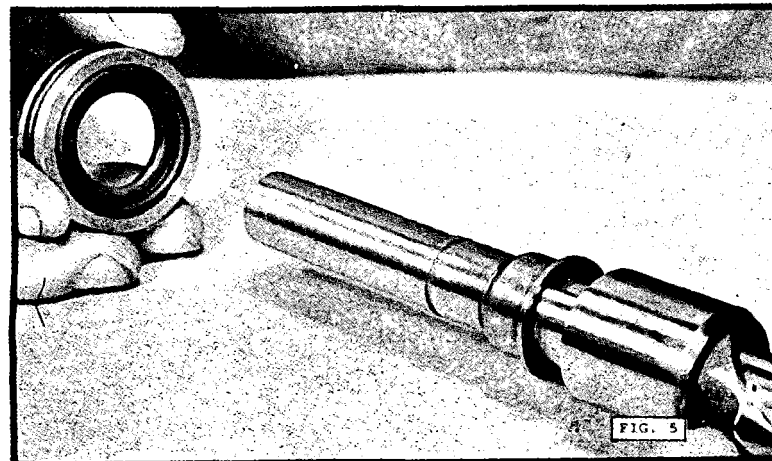

FIG. 5
5. Remove seal retainer (023) complete with seal (025) as shown, Fig. 5. Remove lip seal from retainer taking care not to damage seal locating bore and face. Discard the seal.
6. Remove 'O' ring (024) from outer diameter of seal retainer and discard.
8. Install snap ring (021), (Fig. 5). Rotor is now ready for installation in a unit.